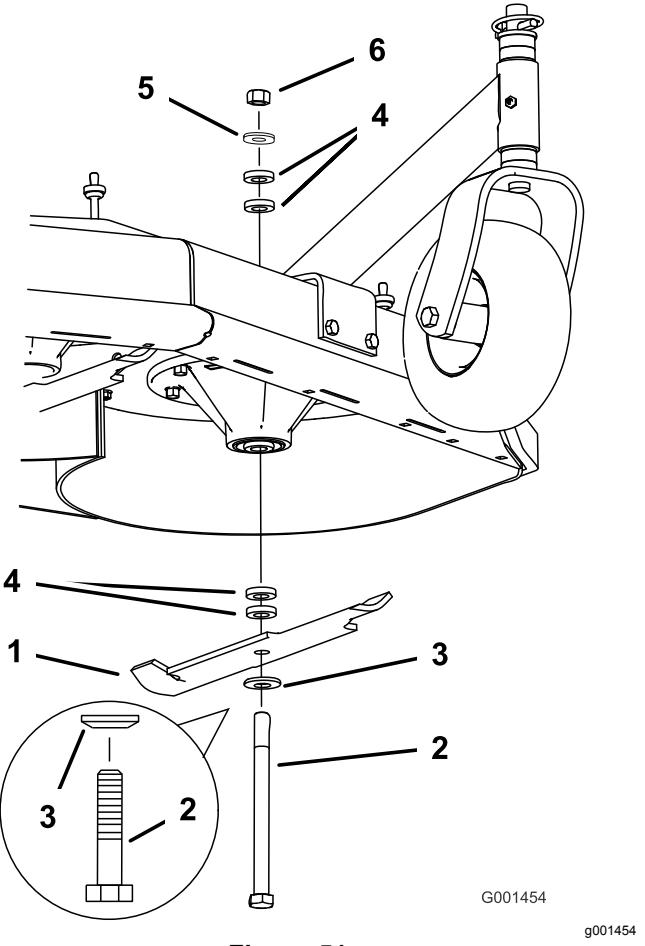

Figure 51
2. Remove the nut, blade bolt, curved washer, blade, spacers, and thin washer from the spindle (Figure 51).
1. Install the curved washer and then the blade onto the bolt. Select the proper number of spacer(s) for the height of cut, and slide the bolt into the spindle (Figure 51).
2. Install the remaining spacer(s) and secure them with a thin washer and a nut (Figure 51).